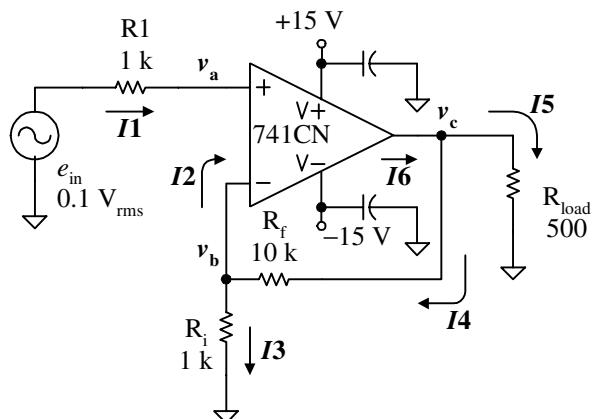

Figure 1-35 Noninverting amplifier for Problem 1-7
- 1-7** Calculate all indicated currents and voltages for the circuit in Figure 1-35.